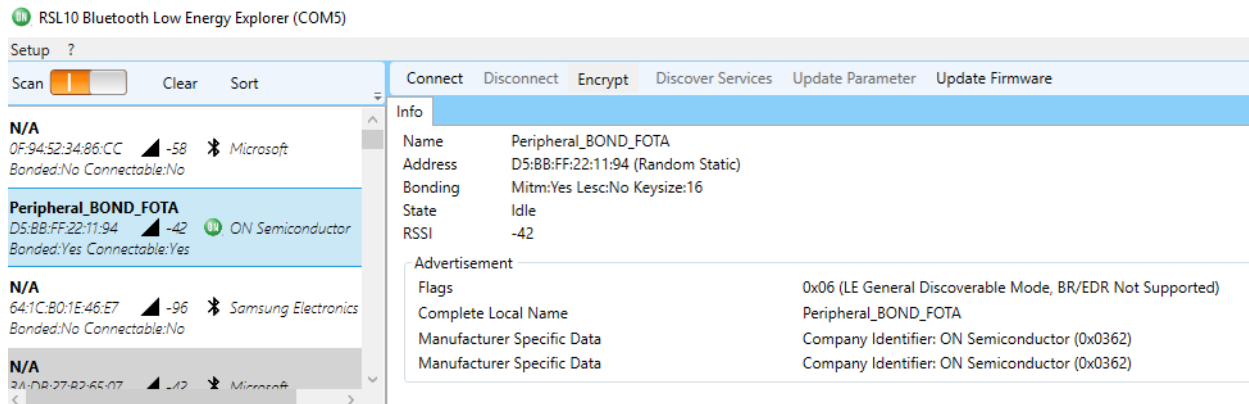

Figure 17. Application Running
4. Verify that your application is running by looking for the advertisement name **Peripheral_BOND_FOTA** on the RSL10 Bluetooth Low Energy Explorer, as in Figure 17 on page 32: